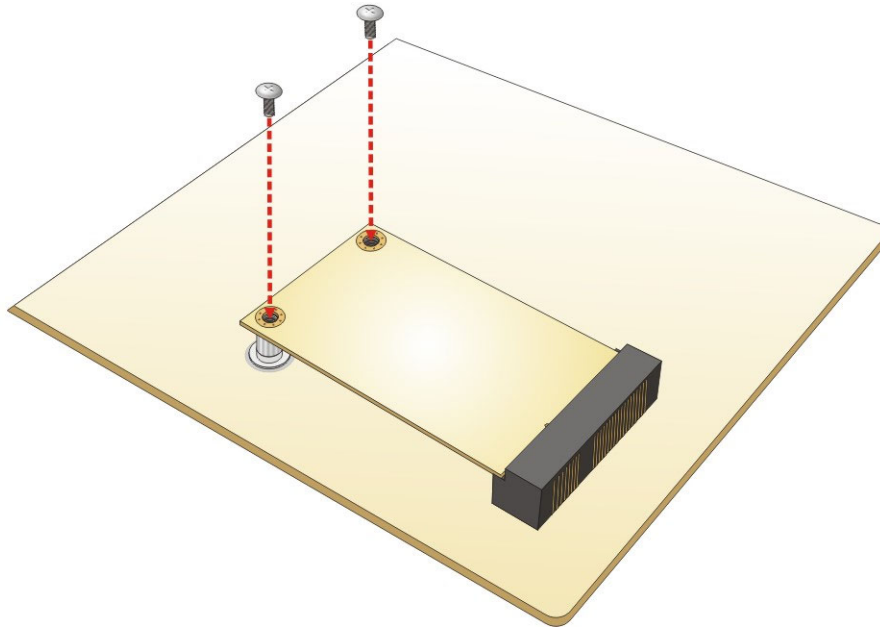

Figure 4-16: Securing the mSATA Card
Step 4: Secure the mSATA card. Secure the mSATA card with the retention screws previously removed (**Figure 4-16**).